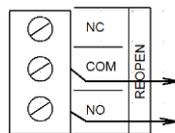

Figure 2 - Reopen Contact Connection
- The REOPEN relay contacts should be connected to the controller as shown in Figure 2 - Reopen Contact Connection. \*\*\*N.O. or N.C. depends on the controller being used.\*\*\*
- The REOPEN relay contacts should be connected to the controller as shown in Figure 2 - Reopen Contact Connection.